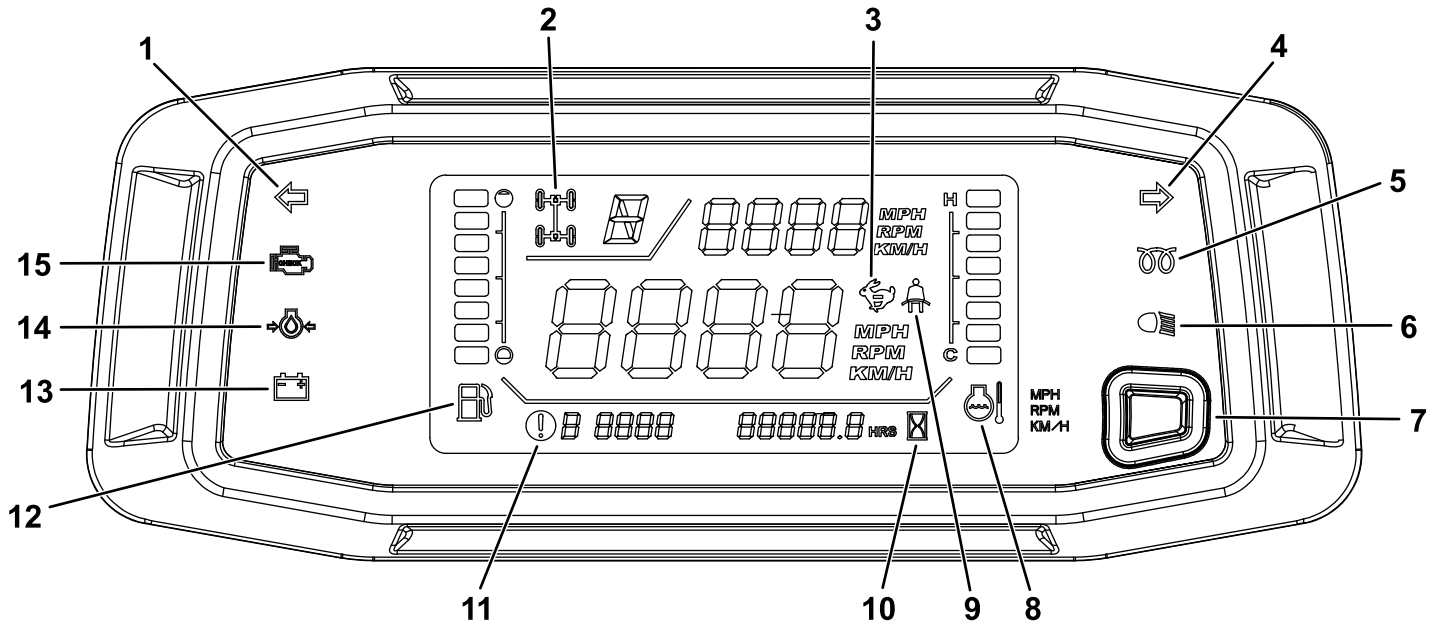

Figure 62
The left or right turn-signal blinks when you press the turn-signal switch to the left or right (Figure 62).
**Note:** When the indicator (Figure 62) is blinking it means that the setting is not engaged/inactive; when it becomes solid, it is engaged/active.
If the cruise control is set, the indicator illuminates (Figure 62).
The glow-plug indicator light (Figure 62) illuminates when you turn the key switch to the ON position and the glow plug is activated.
The hour meter indicates the total hours of machine operation. The hour meter (Figure 62) starts to function whenever the engine is running.
The oil-pressure-warning light (Figure 62) illuminates if the engine-oil pressure drops below a safe level while the engine is running.
The coolant-temperature gauge registers the coolant temperature in the engine and operates only when the key switch is in the ON position (Figure 62).
The charge indicator illuminates when the battery discharges. If the light illuminates during operation, stop the machine, shut off the engine, and check for possible causes, such as the alternator belt (Figure 62).
The fuel gauge shows the amount of fuel in the tank. It displays only when key switch is in the ON position (Figure 62).
The tachometer displays the speed of the engine (Figure 62).
The speedometer registers the ground speed of the machine (Figure 62).
Press the button (Figure 62) between 0 to 3 seconds to swap the locations of tachometer and speedometer.
Press and hold the button (Figure 62) between 3 to 10 seconds to convert the speedometer from mph to km/h.